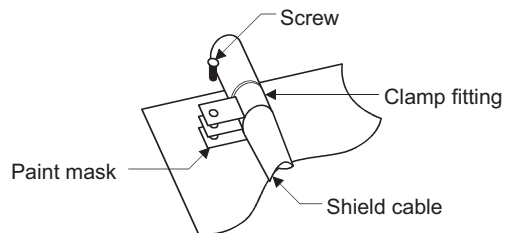

Figure 9.2 Shield grounding (Correct example)
(1) Grounding of shield section of shield cable
- Ground the exposed shield section to spacious area on the control panel. A clamp can be used as shown in Figure 9.2.